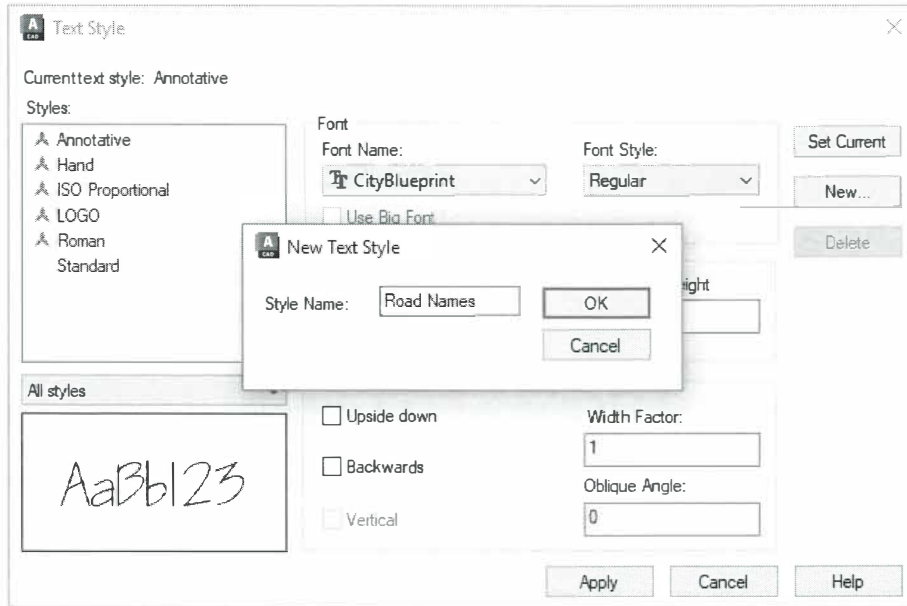

Figure 10–3
In this project, you will create a new template drawing for use with mapping. You will establish units, limits, layers, a text style, and a multileader style, as shown in Figure 10–3.
4. Add a text style named **Road Names**, as shown in Figure 10–3.